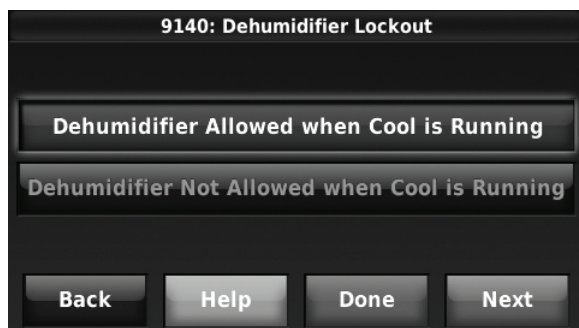

Fig. 252.
7. Set the desired lockout option. See Fig. 252.